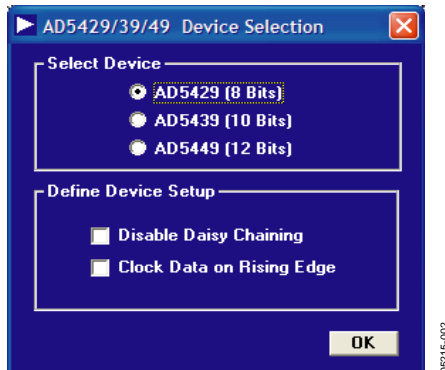

Figure 2. AD5429/39/49 Device Selection Dialog Box
2. Run the program file from the **Analog Devices** menu. The **AD5429/39/49 Device Selection** dialog box is displayed, as shown in Figure 2.